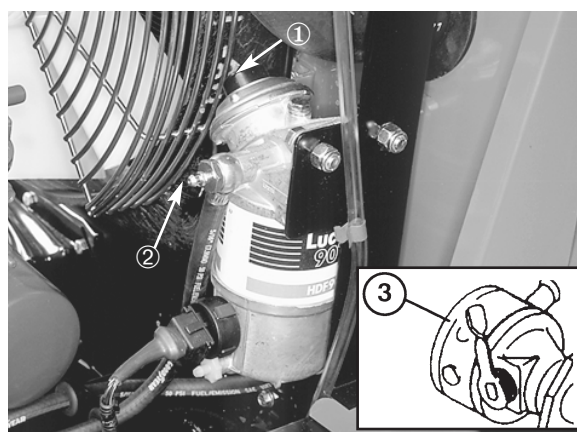

Figure 13
3. Loosen the fuel filter bleed plug a few turns (Fig. 13). Pump the priming plunger (Fig. 13) until a steady stream of fuel runs out of the hole in the bleed screw. When the fuel stops foaming, tighten the bleed screw during the downstroke of the priming plunger. Wipe up any spilled fuel.